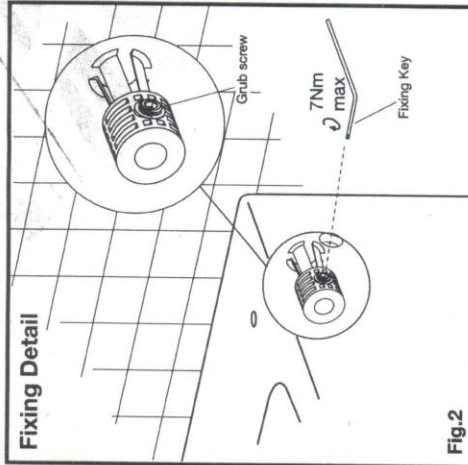

Fig.2
- 9- Fit the plastic fixing bushes into the holes provided with the grub screw facing the fixing holes in the side of the pan, as detailed in Fig. 2.